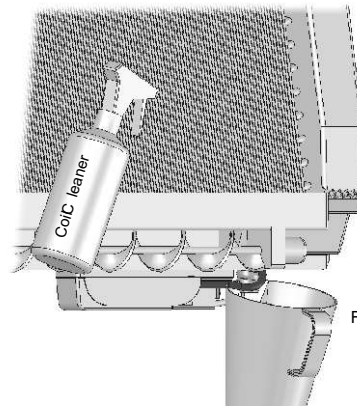

Fig. 13.
2. Collect chemical in a separate container. Fig. 13